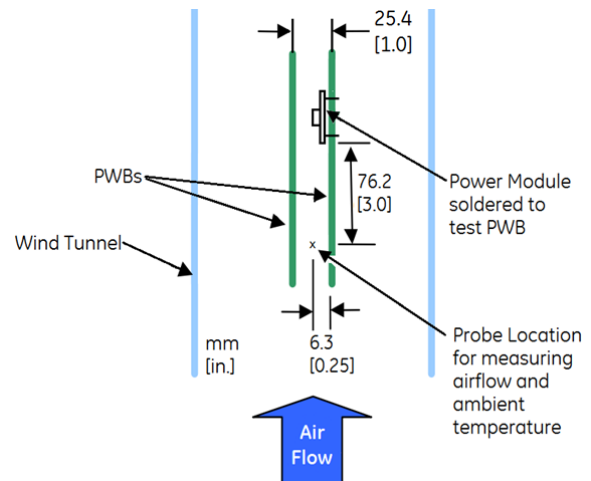

Figure 17. Thermal derating test setup.
The JNCW016A0R module provides a non-latching over temperature protection. A temperature sensor monitors the operating temperature of the converter. If the reference temperature, T_{ref1} , T_{ref2} (see Figure 17) exceeds a threshold of 103 °C (typical), the converter will shut down and disable the output. When the base plate temperature has decreased by approximately 20 °C the converter will automatically restart.